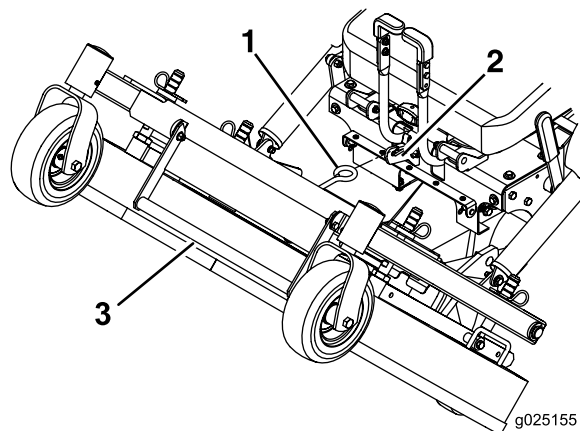

Figure 11
7. Using the deck-lift handle, lift the deck and latch it in the raised position (latch is located at front center of seat) as shown in Figure 11.
1. While firmly holding onto the deck-lift handle, unhook the mower deck latch from the machine and slowly lower the mower deck to the ground (Figure 11).